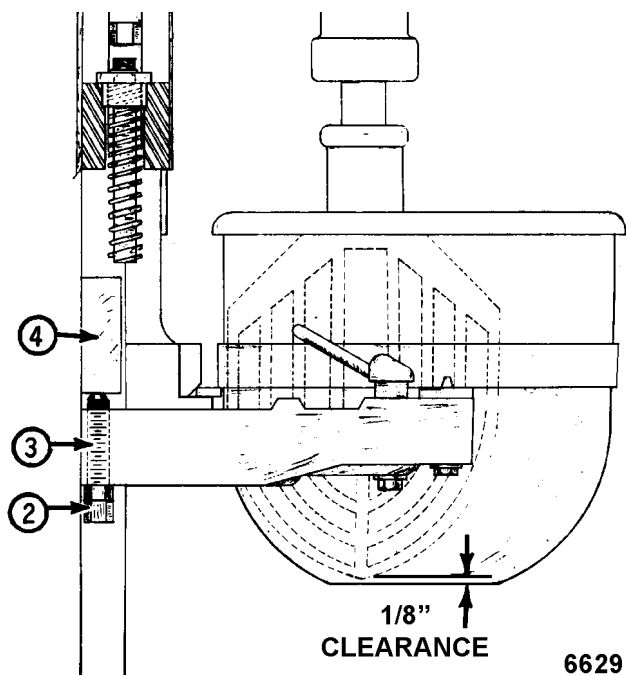

Fig. 129
1. Remove the cap plug from the bumper stop and loosen the bump stop and jam nut [2] Fig. 129.
3. Turn the stop screw [3] Fig. 129 until it is tight against the bowl support stop [4] Fig. 129.